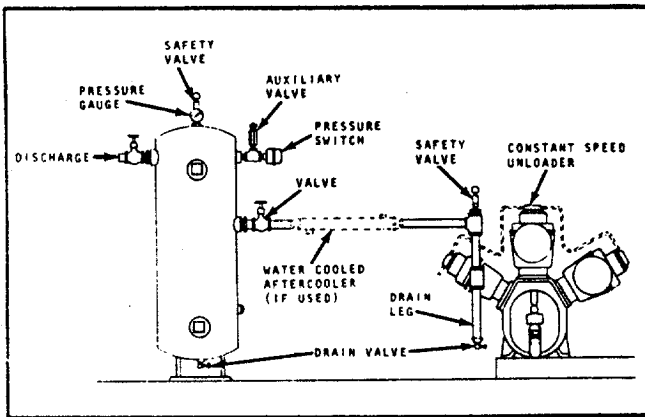

Figure 2-3. Typical piping arrangement for compressor and detached receiver.
1. If possible, run the piping down from the compressor discharge to permit the condensate to drain into the receiver. If this is not possible, install a "drain leg" as shown in Figure 2-3. The drain leg should project down from the compressor discharge and be at least 10" (254 mm) long. Put a drain valve at the end of this pipe and drain at least weekly, or as often as necessary.
If the receiver is detached as shown in Figure 2-3, these items must be installed and connected by the customer. Make certain that they are located high enough on the receiver to prevent condensate from draining into them.